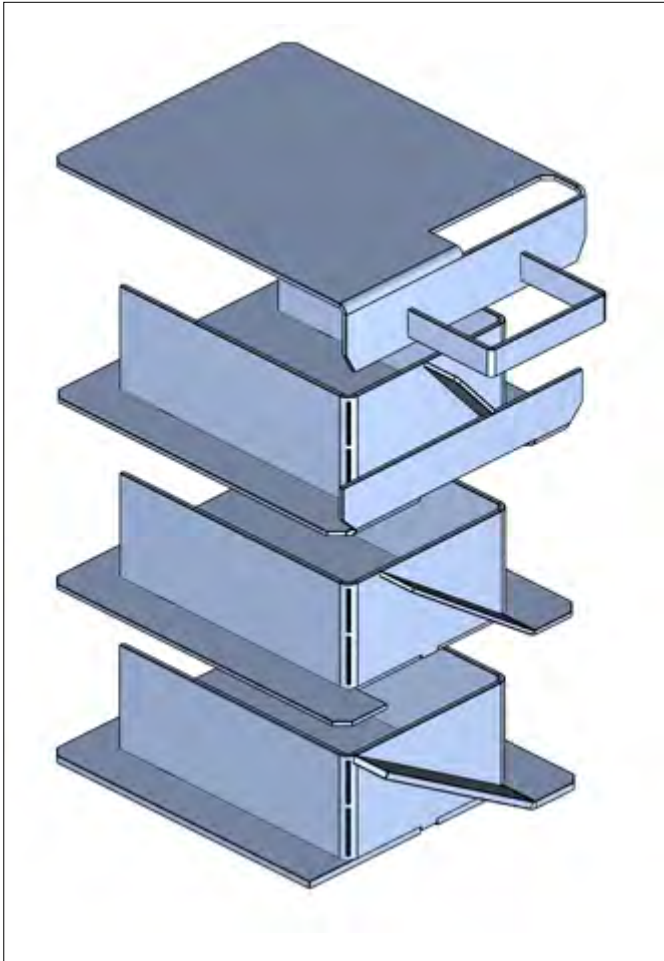
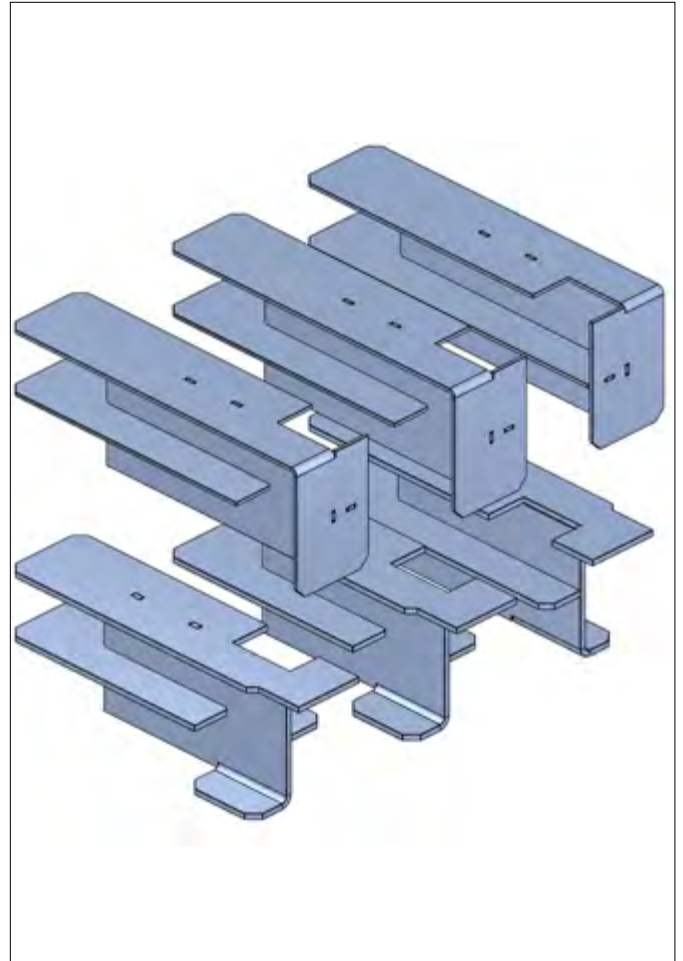
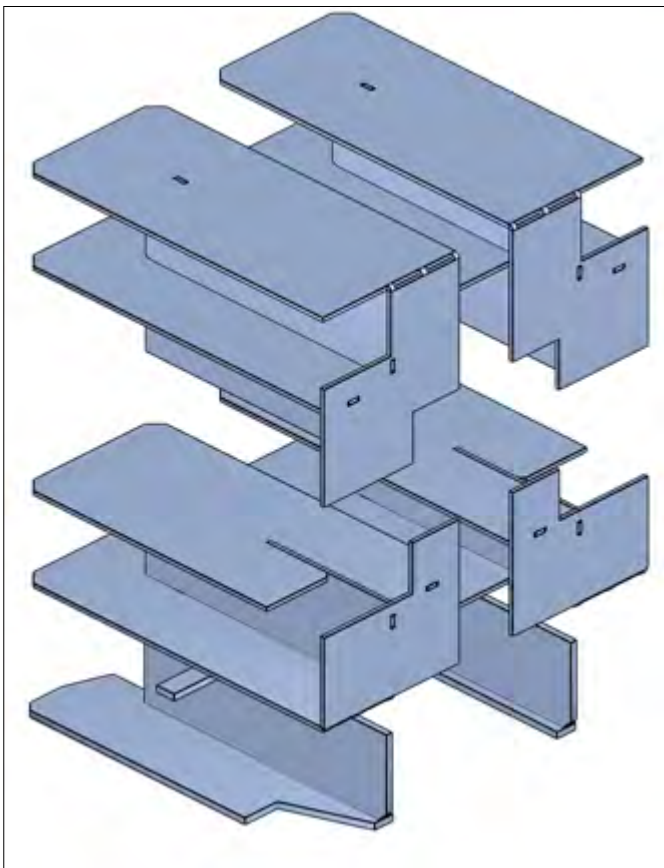

Figure 11-1: Baffles in Vortex Pro Combi 21
Figure 11-3: Baffles in Vortex Pro Combi 36
Figure 11-2: Baffles in Vortex Pro Combi 26
2. Remove the baffles as shown in Figure 11-1, Figure 11-2 and Figure 11-3.
6. Replace the baffles, ensuring they are correctly fitted. Refer to Figures 11-1, 11-2 or 11-3, as appropriate. Pull out the spiral turbulators from the heat exchanger tubes.